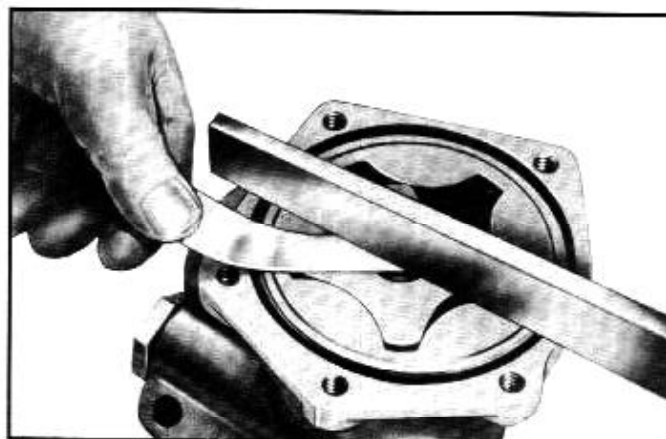

Fig. 6C-132—Checking Rotor End Play Clearance
8. With the rotor and shaft assembly installed in the housing, place a straight edge over the rotor assembly and pump body. Measure the clearance between the pump and the straight edge at the rotor. The clearance should be .0015" to .0029". See figure 6C-132.
For your reference, figures 6C-133 through and including 6C-135 are presented for reference and parts identification during assembly procedures.